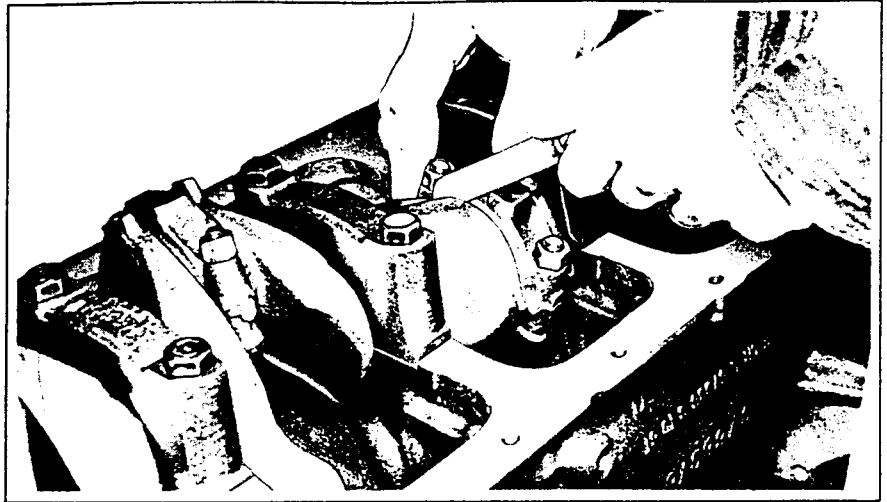

Figure 8-1-42
2. Check connecting rod end clearance between connecting rod cap and side of crankpin (see Figure 8-1-42). See Engine Specifications for clearance.